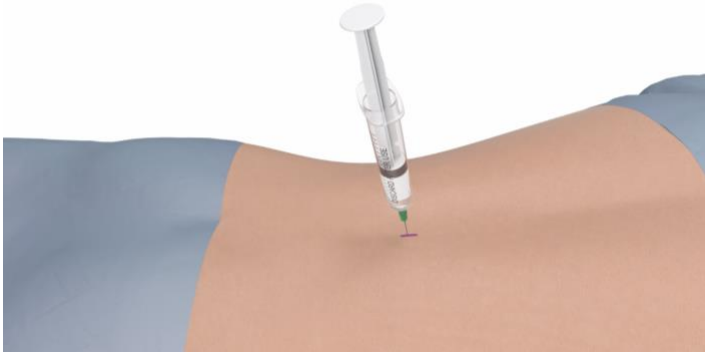

Figure 2
4. Prepare the entry site by administering a local anesthetic superficially and deeply along the needle tract and as needed throughout the procedure. (Figure 2)